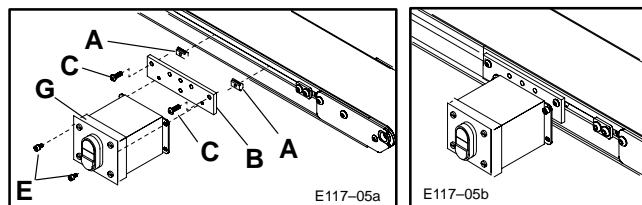

Figure 5: Start-Stop Box Horizontal Mounting to Conveyor T-slot
- a. Refer to Figure 5 and disassemble and re-attach Pushbutton Box assembly to the Mounting Plate and Mounting Brackets in the manner shown.
- c. Then, refer to Figure 5 and attach assembly to the two Single Drop-in T-bars, using the M6 x 16 mm Button Head Cap Screws. Tighten Screws with 4 mm Hex Key Wrench provided.